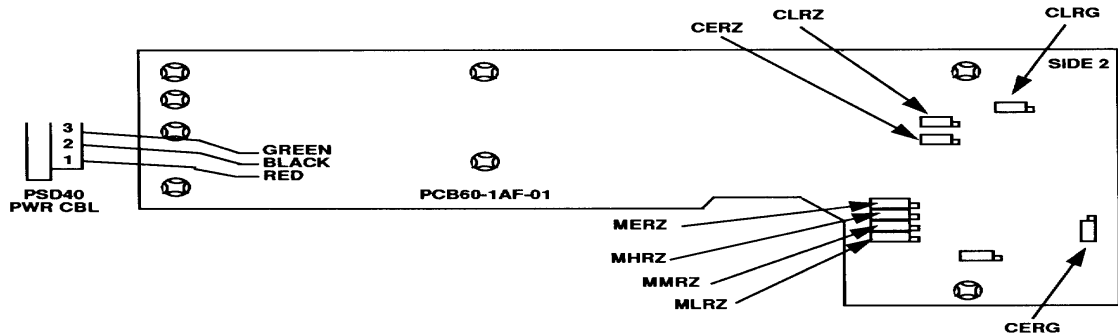

Figure 2. PCB60-1AF-01, side 2 - adjustment locations.
- (1) Remove capacitance standard connection from **TI TANK UNITS LOZ** and **HIZ** terminals.
- (2) Remove six screws from front panel and remove front panel assembly from case.
- (3) Adjust **CLRZ** potentiometer (fig. 2) until TI display indicates **0000** and - sign on the display alternately illuminates (R).
- (4) While pressing **EXTENDED RANGE** pushbutton, adjust **CERZ** (fig. 2) potentiometer until TI display indicates **0000** and - sign on the display alternately illuminates (R).
- (5) Repeat steps (3) and (4) above as necessary.
- (6) Repeat technique of **a** (7) and (8) above.
- (7) Adjust **CLRG** (fig. 2) potentiometer for a TI display indication within $\pm 0.1\%$ of test report value (R).
- (10) While pressing **EXTENDED RANGE** pushbutton, adjust CERG potentiometer (fig. 2) for a TI display indication within $\pm 0.1\%$ of recorded value (R).
- (11) Repeat steps a (3) through (13) above as necessary.
- (12) Install front panel assembly in case and reinstall six screws which were removed.
- (1) Remove resistance standard connections.
- (2) Remove six screws from front panel and lift front panel from case.
- (3) Set **SELECT** switch to **LOZ-HIZ**.
- (4) Connect 10 MΩ resistance standard No. 1, to **TI TANK UNITS LOZ** and **HIZ** using special test cables.
- (5) Adjust **MLRZ** potentiometer (fig. 2) for display indication of 10.00 (R).
- (6) Connect 100 MΩ resistance standard No. 1, to **TI TANK UNITS LOZ** and **HIZ** using special test cables.
- (7) Adjust **MMRZ** potentiometer (fig. 2) for display indication of 100.0 (R).
- (8) Connect 1000 MΩ resistance standard No. 1, to **TI TANKS UNITS LOZ** and **HIZ** using special test cables.
- (9) Adjust **MHRZ** potentiometer (fig. 2) for display indication of 1000 (R).
- (10) Connect 10 GΩ resistance standard No. 2, to **TI TANK UNITS LOZ** and **HIZ** using special test cables.
- (11) Adjust **MERZ** potentiometer (fig. 2) for display indication of 10000 (R).
- (12) Replace front panel in case and reinstall six screws.